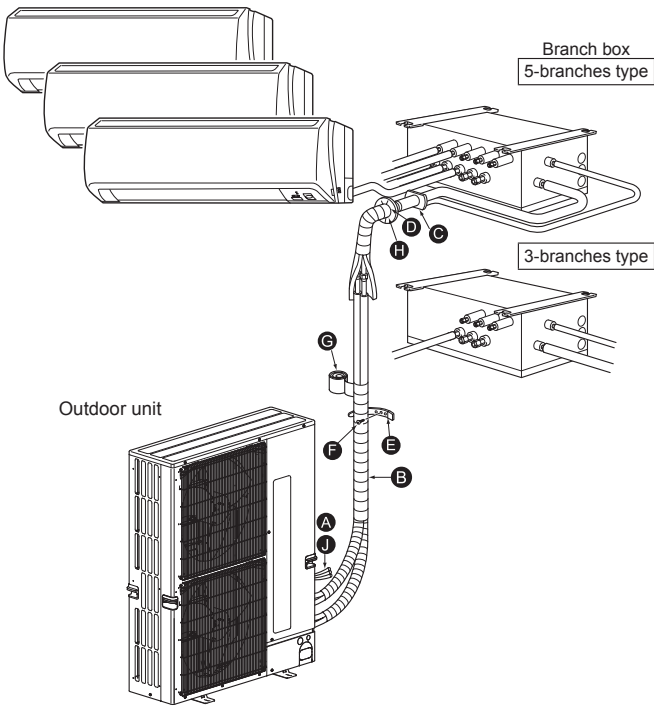

Fig. 2-1
2.1. Before installation (Fig. 2-1)